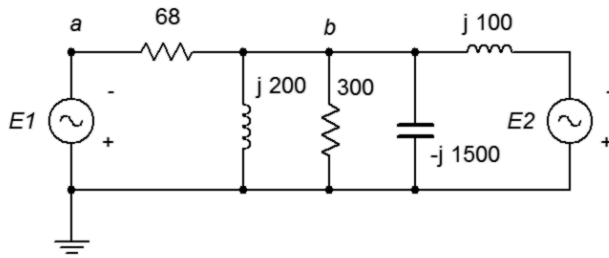

Figure 6.4
- Use mesh analysis to find the current through the $j200 \text{ }\Omega$ inductor in Figure 6.4. $E1 = 1\angle 0^\circ$, $E2 = 2\angle 0^\circ$.
- Given the circuit in Figure 6.4, write the mesh loop equations and determine v_b . Consider using parallel simplification first. $E1 = 36\angle -90^\circ$, $E2 = 24\angle -90^\circ$.
49. Given the circuit in Figure 6.4, use nodal analysis to determine v_{ba} . $E_1 = 1\angle 0^\circ$, $E_2 = 2\angle 0^\circ$.